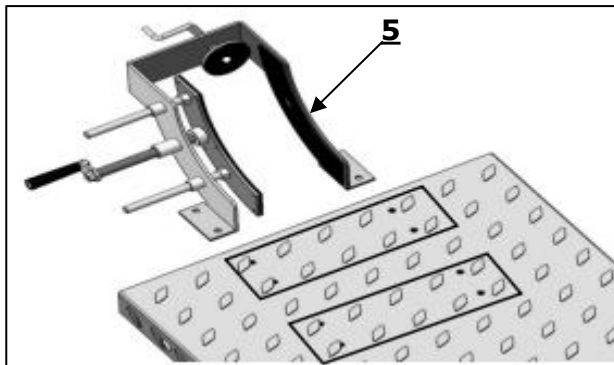

Fig.9
1.The wheel vise can be installed in two positions on the platform, allowing users to choose their preferred installation position.(See Fig 9)